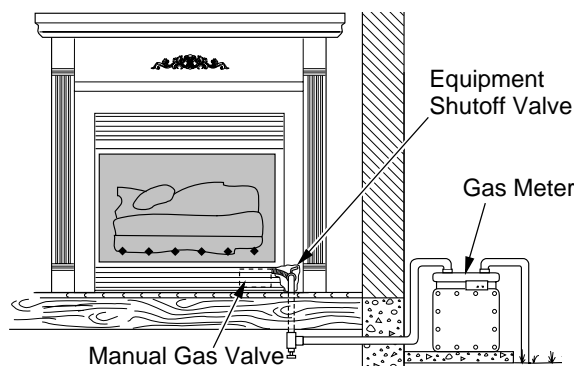

Figure 28 - Checking Gas Joints for Natural Gas Fireplace (VTGF33NR/VTGF33PR Shown)
3. Check all joints from gas meter for natural or propane/LP supply to equipment shutoff valve (see Figures 28 or 29, page 18). Apply noncorrosive leak detection fluid to all joints. Bubbles forming show a leak.
4. Check all joints from equipment shutoff valve to gas valve (see Figure 28 or 29). Apply noncorrosive leak detection fluid to all joints. Bubbles forming show a leak.